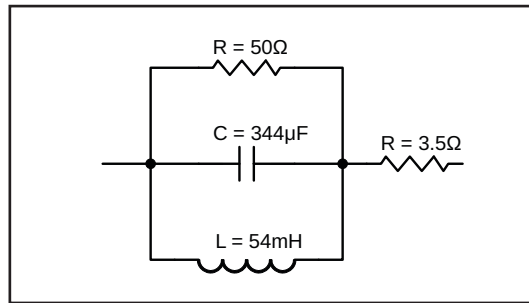
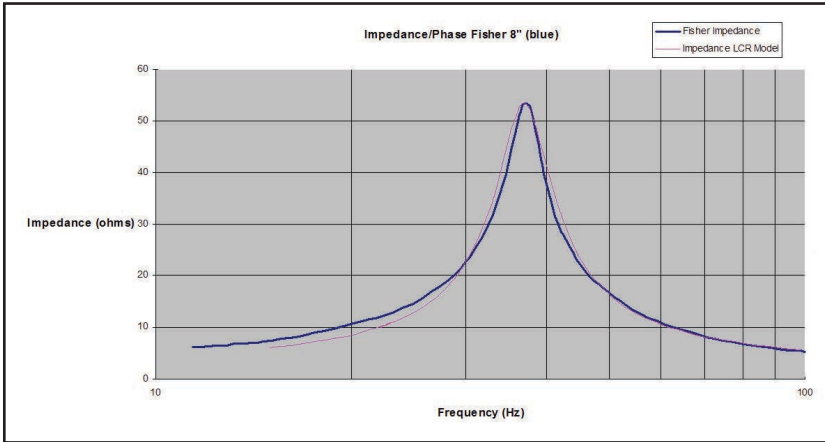

Figure 13: Here are equivalent real-world values of impedance for the Fisher woofer.
Figure 14: The graph shows the impedance curves of the Fisher woofer and the equivalent LCR filter.
**Figure 13** shows the LCR filter model, with the effective component values. This filter's impedance curve is comparable to that of the Fisher woofer. **Figure 14** shows the impedances both of the modeled filter and the actual woofer.